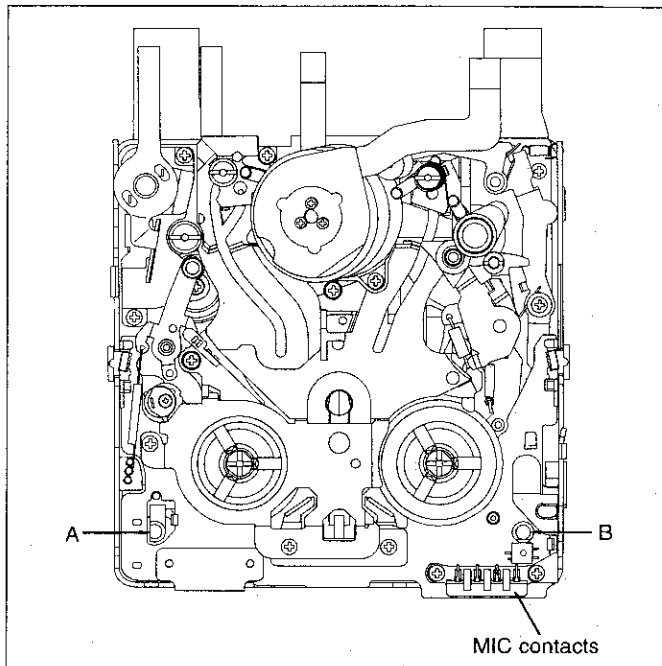

Fig. 3.
- (1) Remove the cassette control assembly (refer to 8-2).
- (2) Referring to 8-1, apply DC3V to the loading motor and put the system into FF (REW) mode.
- (3) Taking adequate care so that the master plane does not contact drum, running parts (guide roller, etc.), or the MIC contacts. Fit the master plane holes to the 2 guides (A and B) in Fig. 3.